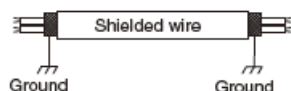

Fig.8-6
- (5) Use shielded wires for inter-unit control wiring(c) and ground the shield on both sides, otherwise misoperation from noise may occur.(Fig.8-6)